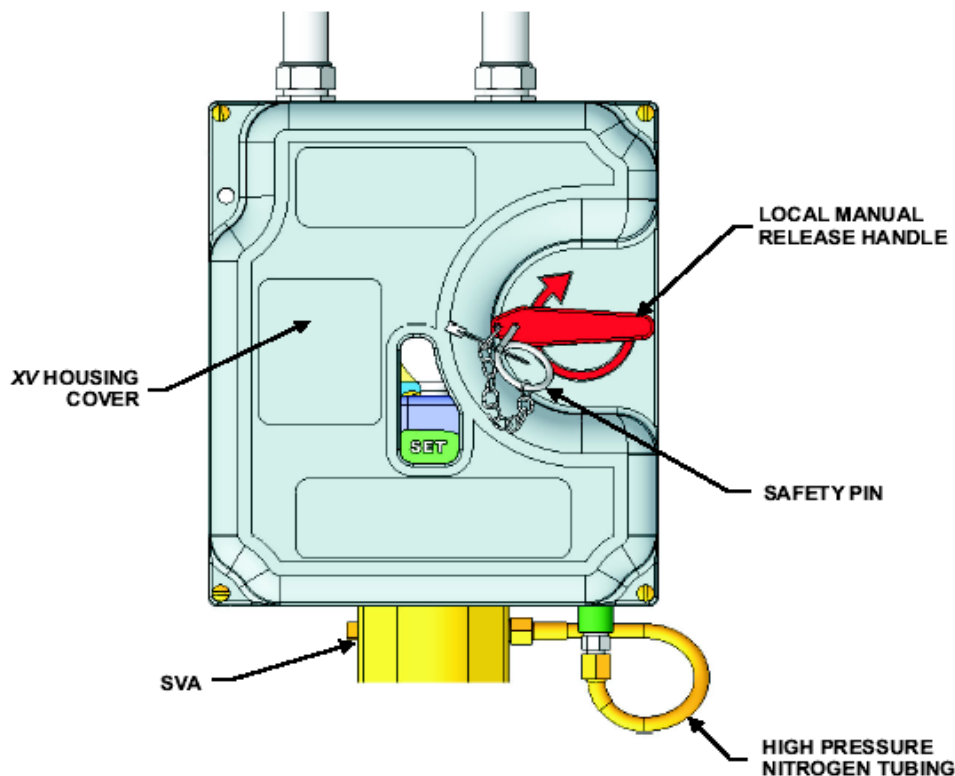

Figure 4-77. XV Control System, Cover Attached
2. Locate the cover of the XV Control System. Ensure that the local manual handle is set and that the Safety Pin is inserted (see Figure 4-77). The handle should be locked in the set position. If the handle can turn, adjust until the pin can be inserted all the way through the handle into the body of the cover.